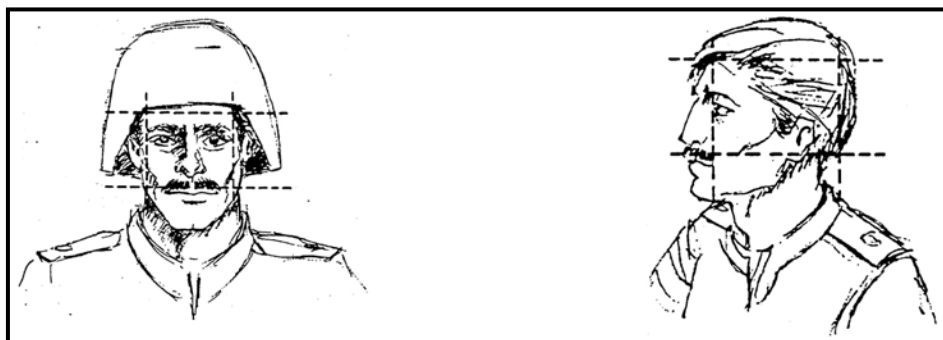

Figure 7-37. Incapacitation zone aim points.
(2) **Incapacitating Shot Placement** (Figure 7-37). The only shot placement that guarantees immediate and total incapacitation is one roughly centered in the face, below the middle of the forehead and the upper lip, and from the eyes in. Shots to the side of the head should be centered between the crown of the skull and the middle of the ear opening, from the center of the cheekbones to the middle of the back of the head.